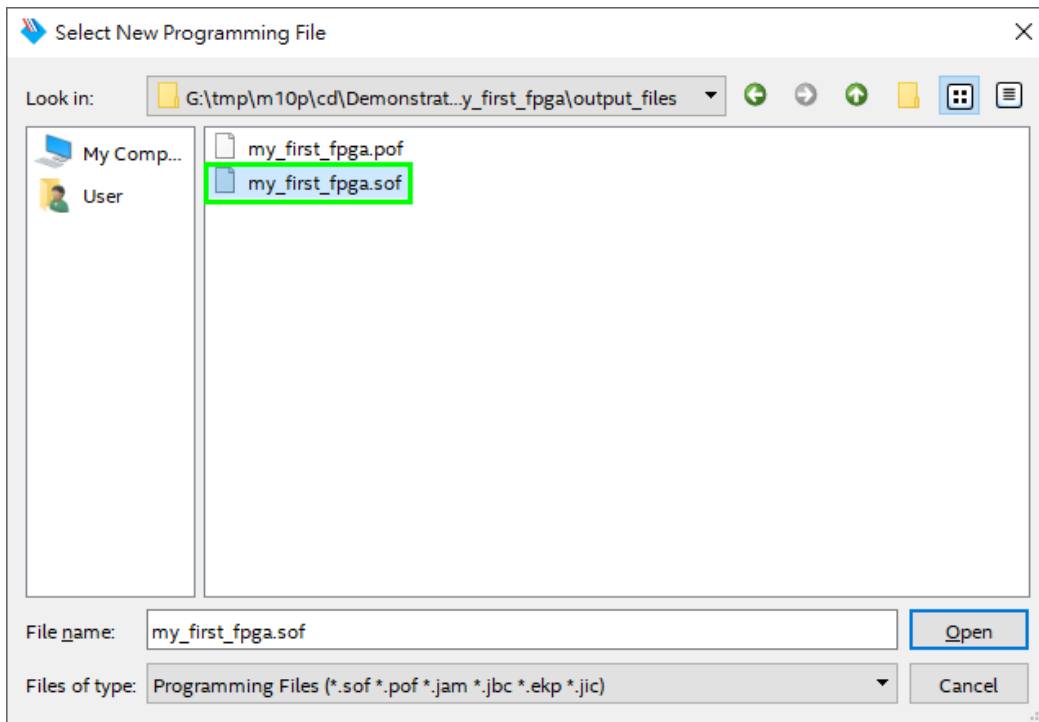

Figure 3-6 Select the .sof File to be Programmed into the FPGA Device
5. Select the .sof file to be programmed, as shown in **Figure 3-6**.